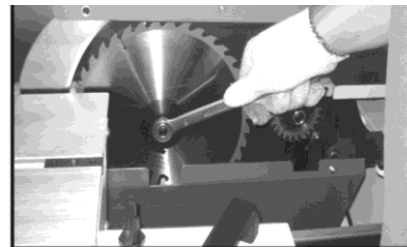

Fig.43
6. Install the new blade, re-install the arbor flange and the arbor nut and tighten them against the blade. (Fig. 43)